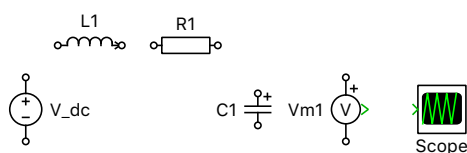

Figure 3: Components of the RLC network
- 1 Drag and drop the Voltage Source DC, Inductor, Resistor, Capacitor, Voltmeter and Scope components from the library onto the schematic window, as shown in Fig. 3.